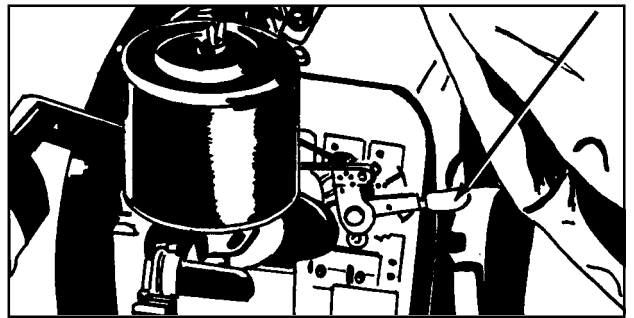

Figure 3
2. Move the throttle lever to the half throttle position. See figure 3.